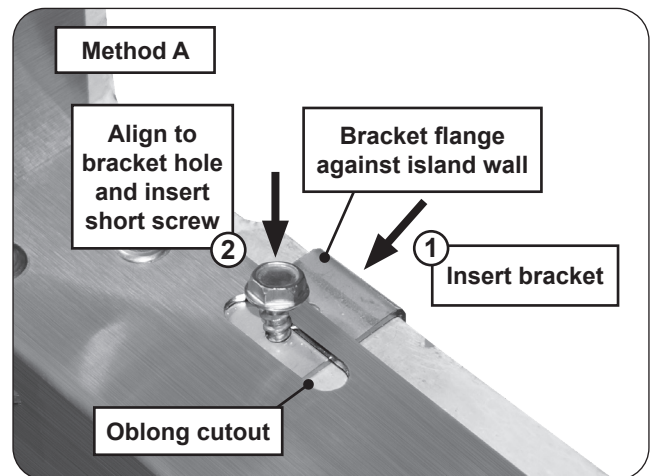

Fig. 3-2 Method A install detail
1. Use the oblong cutouts (or round holes) on opposite sides of the frame (either top and bottom or left and right). Reach from within the island and insert a bracket where a cutout exists, **between the wall and frame**. See Fig. 3-2, step 1.
2. While holding the rear of the bracket and the front of the frame **firmly** against the concrete wall, align a bracket hole to the frame's oblong cutout and insert a supplied short hex screw. Tighten the hex screw with a power drill and 5/16" hex driver (see Fig. 3-2, step 2). **DO NOT OVERTIGHTEN.**